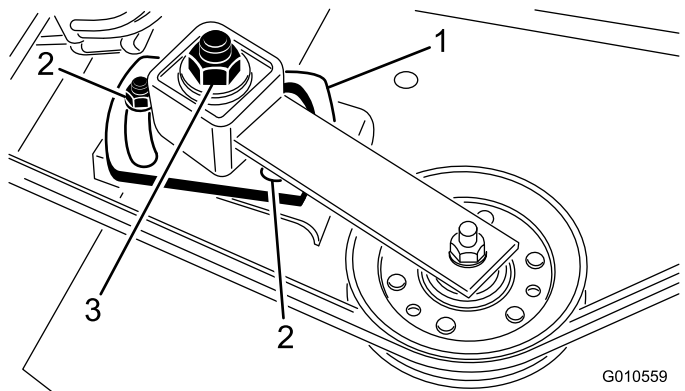

Figure 29
5. Use a socket and torque wrench to tighten the idler adjusting nut to 47 to 54 N·m (35 to 40 ft-lb) (Figure 29).